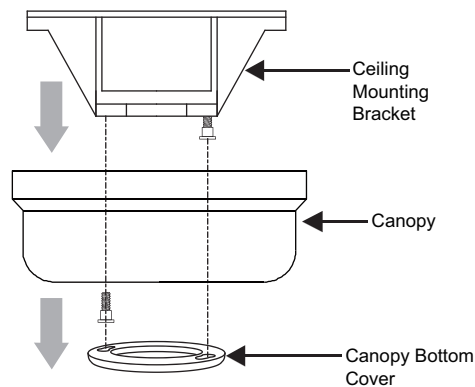

Figure 4
1. Remove the decorative canopy bottom cover from the canopy by turning the cover counter clockwise. (Figure 4)
2. Remove the mounting bracket from the canopy by removing the 1 of 2 screws from the bottom of the mounting bracket and loosening the other one a half turn from the screw head. Next, turn the canopy counter clockwise to remove the canopy cover from the canopy. (Figure 4)